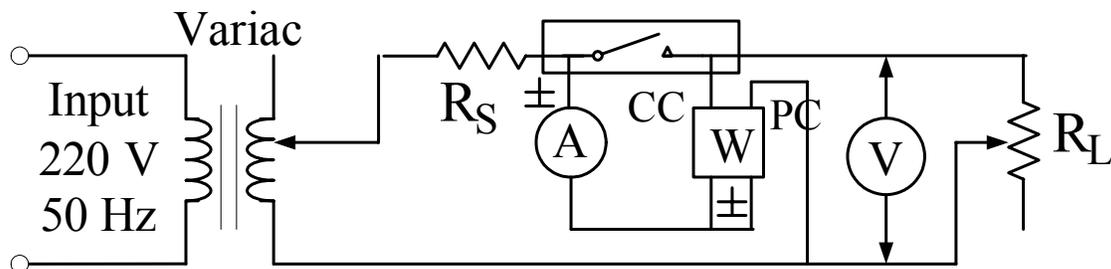

Figure 2.1: Test circuit
- 1) Connect the circuit as shown in Figure 2.1 ($R_S = 50 \text{ ohm}$). Set the variac to zero.